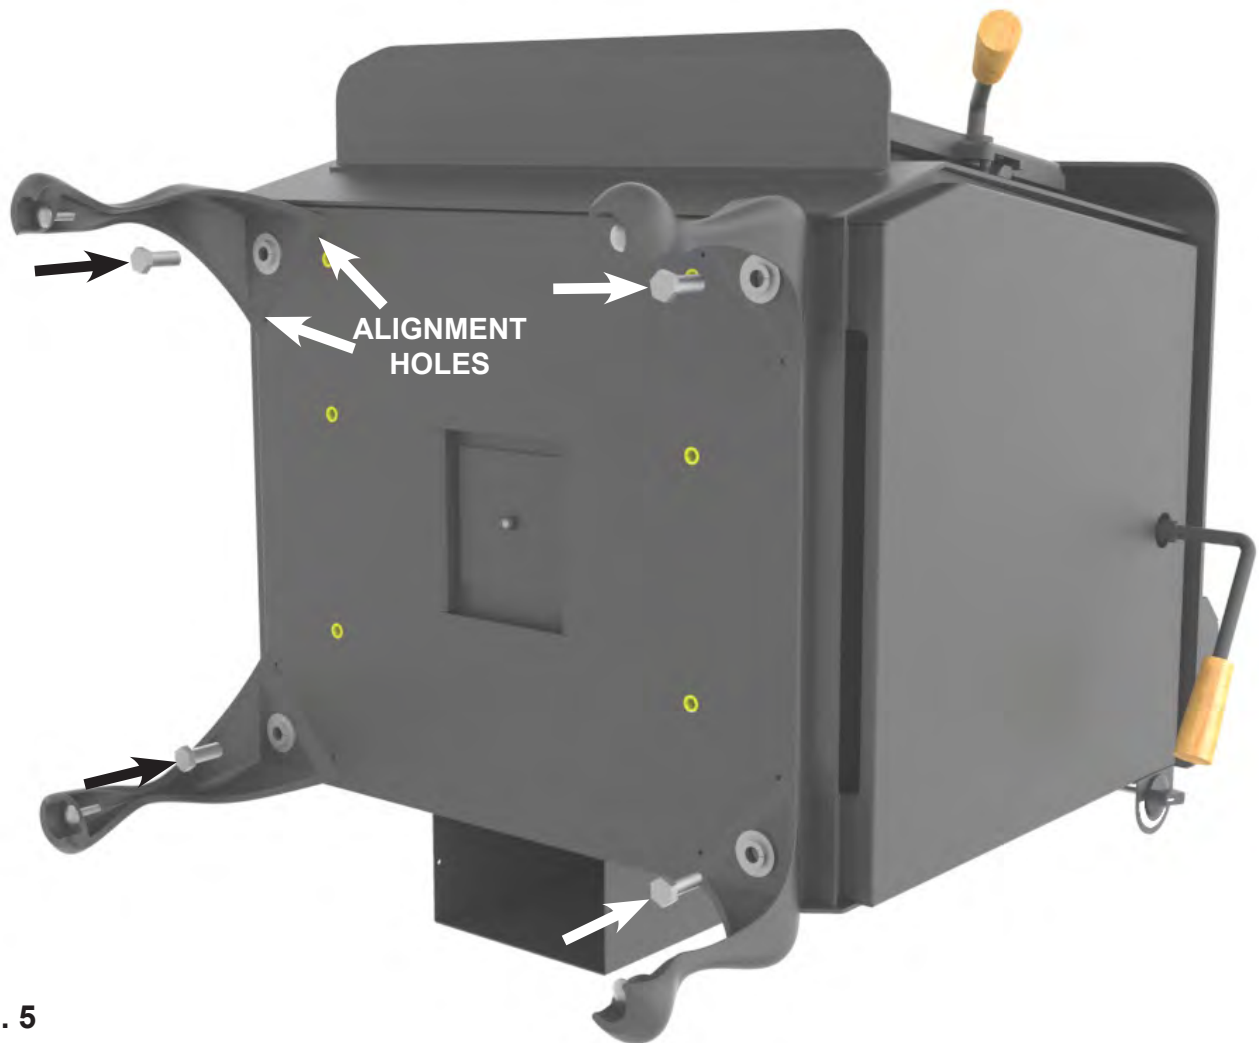

Fig. 5
2. Position each leg accordingly, use alignment holes in base, fasten to stove using the 1/2" bolts and washers supplied with the parlor leg kit. (Fig. 5)